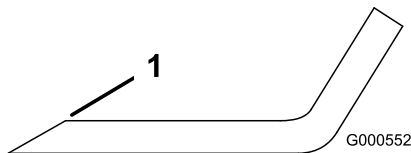

Figure 69
1. Use a file to sharpen the cutting edge at both ends of the blade (Figure 69).
- Note:** If the blade is not balanced, file some metal off the end of the sail area only (Figure 69).